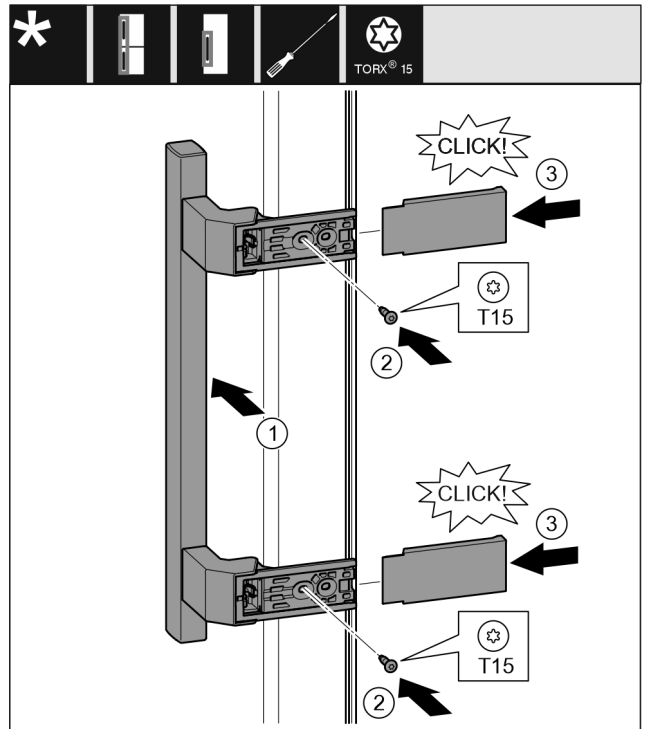

Fig. 21
- ▶ Position the handle on the opposite side. Fig. 21 (1)
- ▶ Tighten the screws using the T15 screwdriver. Fig. 21 (2)
- ▶ Position the covers on the side and push them on. Fig. 21 (3)